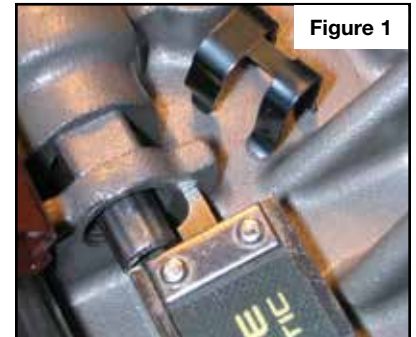

Figure 1
**NOTE:** Prior to removal of any control valve adjustment plug, measure and record the distance from plug to casting. This measurement must be duplicated upon assembly (**Figure 1**).